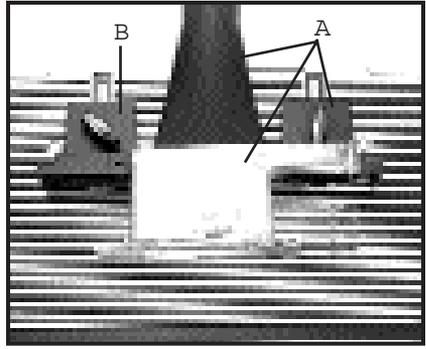

Fig. 9
7. Position the right hand (in-feed) fence bracket and guard assembly (A) Fig. 9, to the slot on the right side of the table. Insert a  $5\frac{5}{16}$ "-18 x  $1\frac{1}{4}$ " carriage bolt (from the hardware package), up through the table and the fence bracket. Secure by threading on one of the black knobs.
8. Assemble the left hand (out-feed) fence bracket (B) Fig. 9, to the table in a similar fashion.